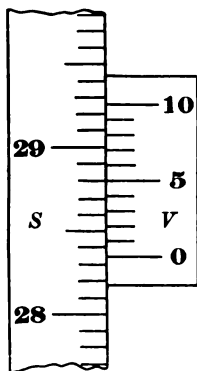

FIGURE 295. — ENLARGED
Figure 295 shows an enlarged drawing of the scale (*S*) and the vernier (*V*).
with a mark on the scale (S). In the figure it is 5 on the vernier. (It makes no difference which one on the scale.) This determines the next figure to be annexed to the scale reading, which makes the completed reading. Thus the reading in Figure 295 is 28.3 with 5 annexed, or 28.35".